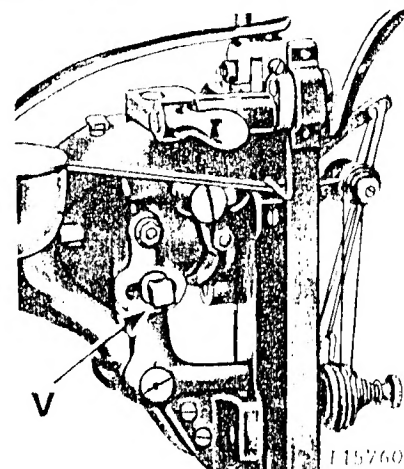

Fig. 19. Adjusting Presser Foot for Various Thicknesses of Materials
To adjust, loosen adjusting screw (V, Fig. 19) and move it toward the balance wheel for less height (thinner material), or move this screw in a direction away from the balance wheel for greater height (thicker material), then firmly tighten the screw (V).